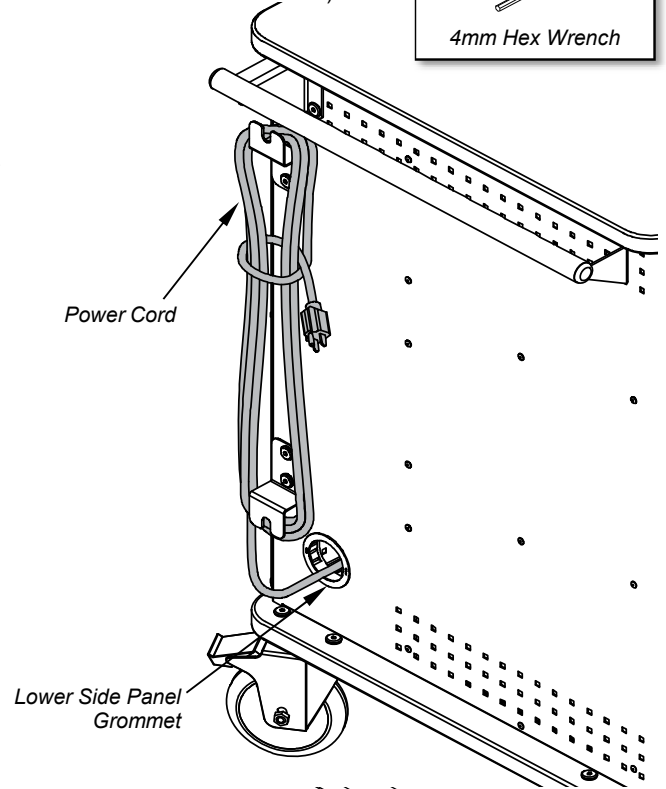

Figure 2B
- Route each power cord through each lower side panel grommet as shown in **Figure 2B**.